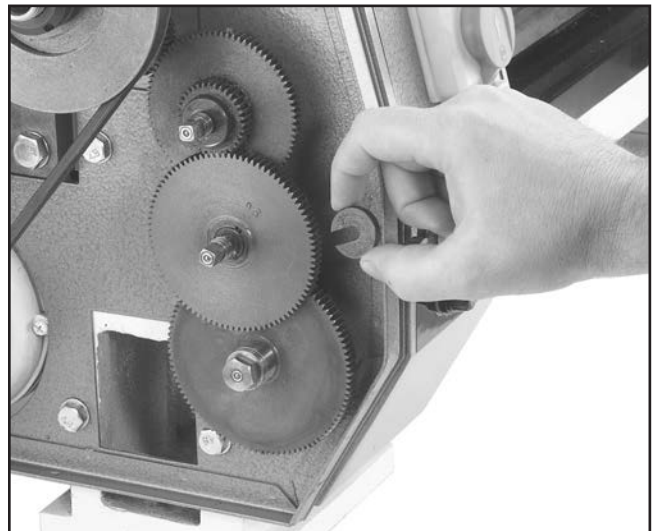

Figure 39. Removing special lock washers from adjustable shaft.
4. Slide the special lock washer off of each adjustable shaft as shown in **Figure 39**.